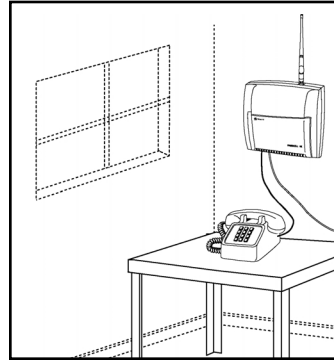

Fig. 1 Optional spike antenna pointed upward and located near the window for optimum signal strength.
- Locate the antenna above ground and as close to windows (or exterior walls) as possible – see **Fig. 1**.